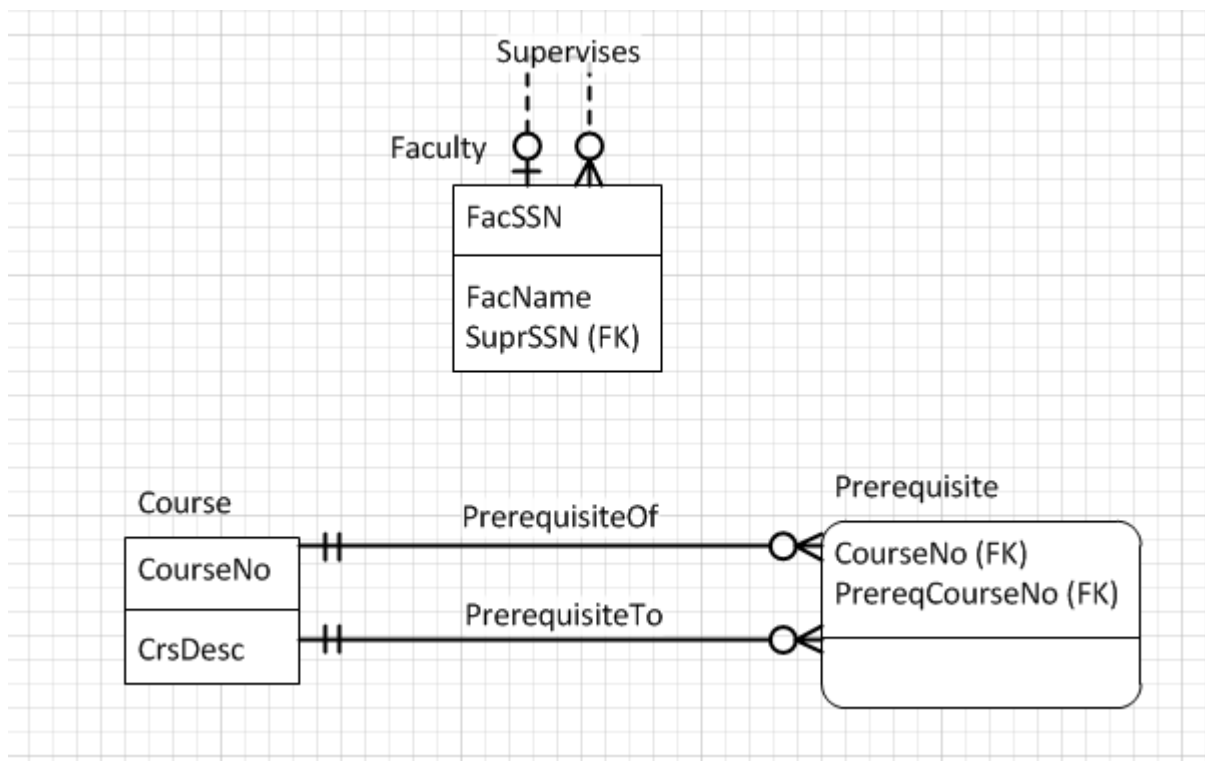

Figure 52: Drawing Area Showing Both Self-Referencing Examples
5. Save the Diagram: The final diagram with both examples appears as shown in Figure 52.